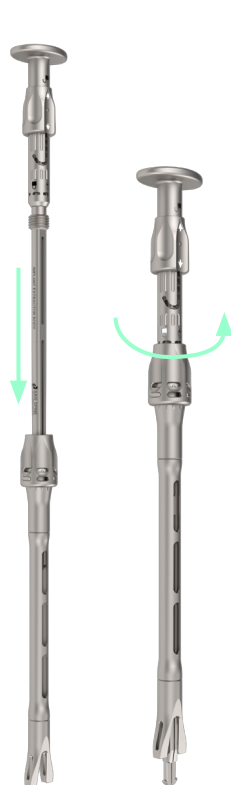

Fig. 59
- Assemble the Implant Extractor by inserting the Extractor Body into the Extractor Sleeve and threading together until it stops (Fig. 59).